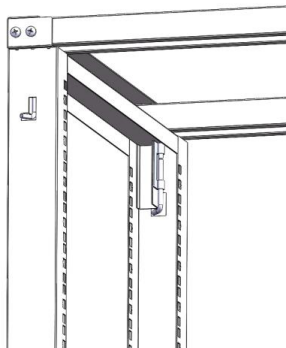

Figure 3
3. Pull the Door Set's 4pcs door latches on unlock position as follows,ready to assembly door set on the Rack.See Figure 3